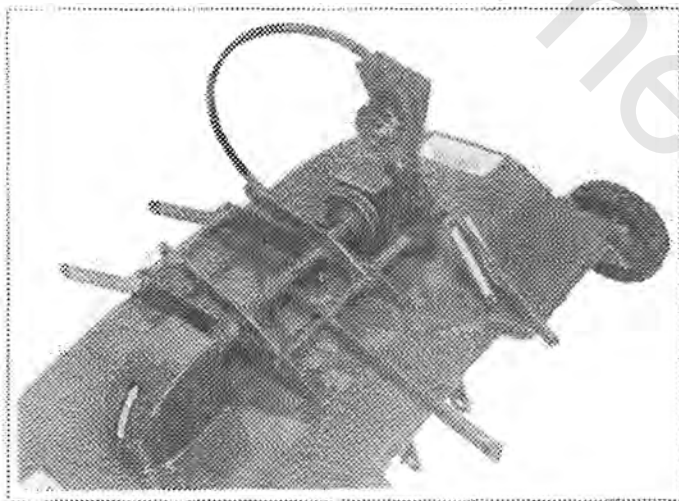

FIGURE 1
G. Assemble idler pulley, Part No. 1623, and shield assembly, Part No. 4931, to mower clutch pedal. The leaf spring on the shield assembly must be deflected down so that it fits under the tubular portion of the clutch pedal assembly. The idler bushing, Part No. 1536, must be placed between the idler and shield. **Note!** The belt must be in the idler pulley groove before these parts are assembled. (See Fig. 1.)
The parking brake is located on the left side of the Lawn Ranger as shown in Figure 1. To set the parking brake depress the clutch-brake pedal as far as possible and push the parking brake down. To release the brake depress the clutch-brake pedal.